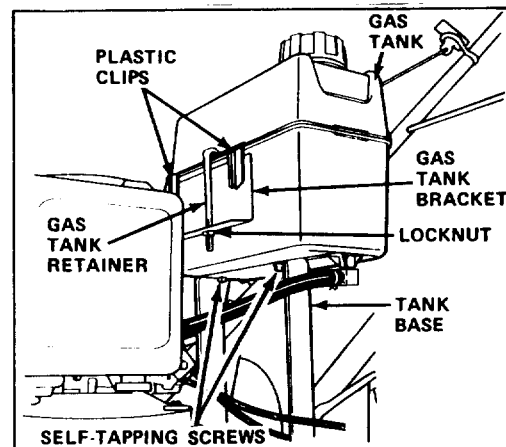

Figure 2
1. Hook the plastic clips on the rear of the gas tank onto the gas tank bracket (Fig. 2).
2. Secure gas tank to tank base with (2) self-tapping screws (Fig. 2). Do not overtighten screws.
3. Hook gas tank retainer onto gas tank and slide end of retainer into hole in tank bracket. Secure retainer to tank bracket with locknut (Fig. 2). Do not overtighten.